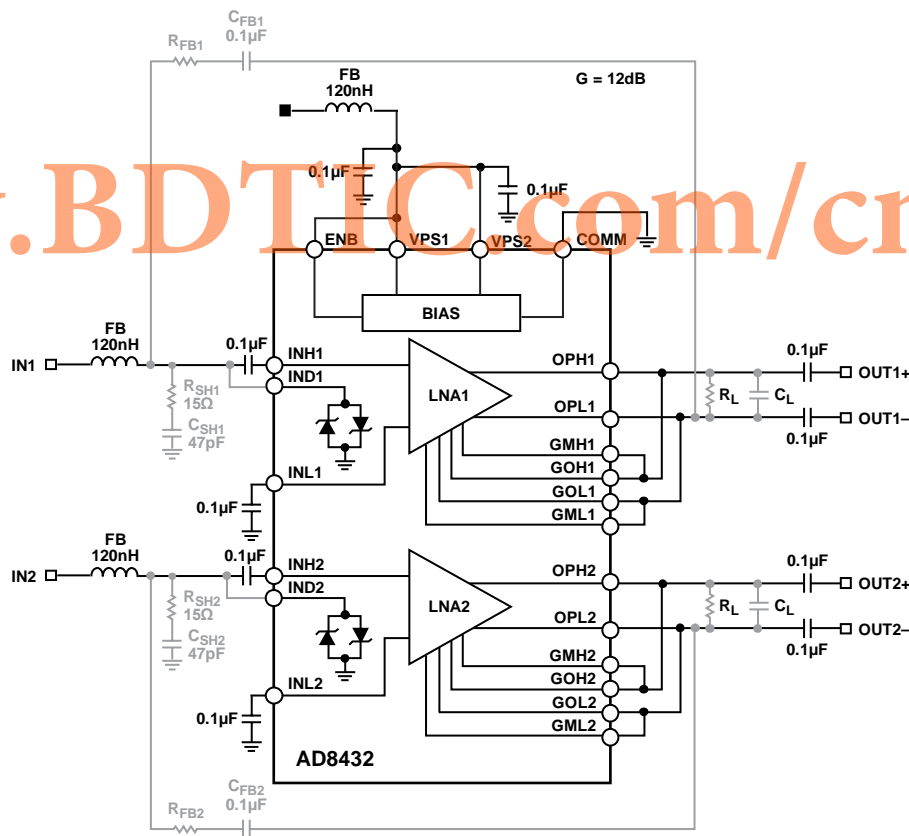

Figure 69. Typical AD8432 Setup, $G = 12.04\text{ dB}$
At the lowest gain (12.04 dB), the gain response exhibits some peaking at higher frequencies. A resistor-capacitor shunt network (RC) at the input (see R_{SHx} and C_{SHx} in Figure 69) is recommended to reduce gain peaking and enhance stability at higher frequencies.